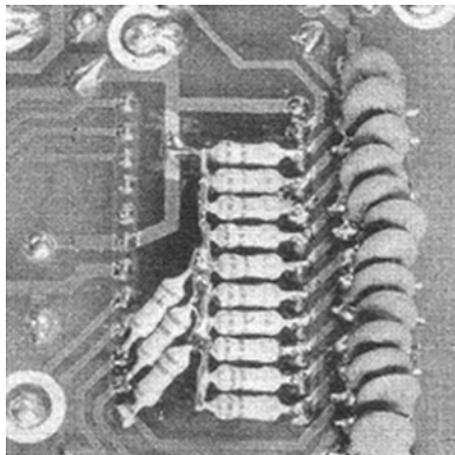

Figure 4. Decoupling the inputs to IC1. See notes 9 & 10.
- 9 If you hear an odd discordant rasping sound occasionally whilst playing the pedals then fit 13 Resistors 220K to pins 3 through 15 of IC1 and join the other ends of the resistors together and connect them to the track going to pin 19 of IC1 by carefully scratching off the solder resist. See Figure 4.
- 10 If the pedal notes occasionally cut-off suddenly during sustain time, this is due to mains interference being picked up on the ribbon cable. To eliminate the problem, connect 13 mini-disc capacitors 0.01 $\mu$ F to PL1 from pins 3 through 15, to the track nearest the edge of the PCB by carefully scratching off the solder resist coating. See Figure 4.